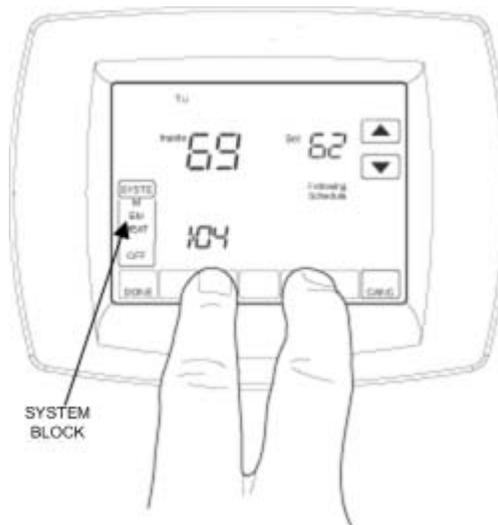

Figure 5 Entering ISU mode
1. From the home screen, press the **SYSTEM** block area (block may not be visible, see Figure 5).